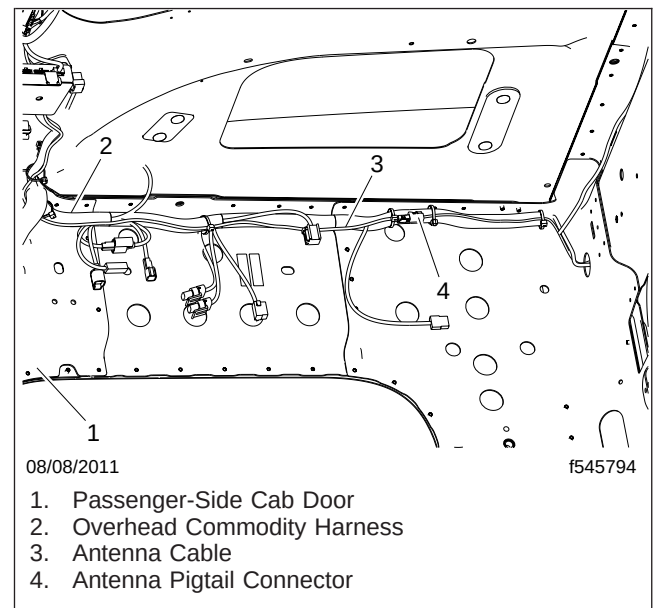

Fig. 2, Antenna Connector (daycab)
3. Disconnect the antenna pigtail from the antenna cable. See Fig. 2.